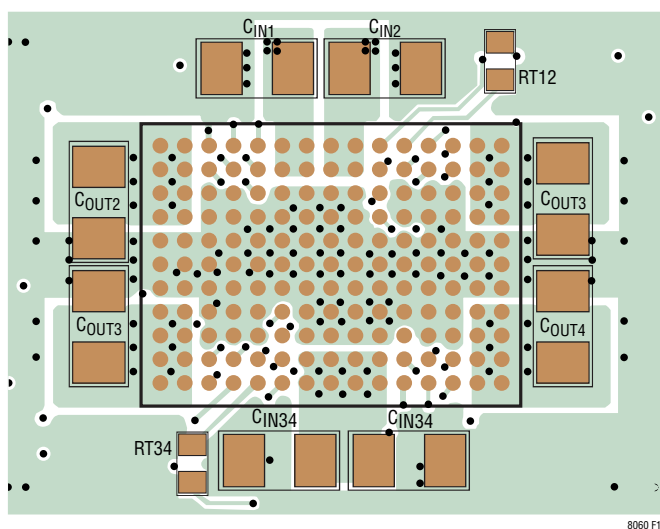

Figure 15. Layout Showing Suggested External Components, GND Plane and Thermal Vias
Most of the headaches associated with PCB layout have been alleviated or even eliminated by the high level of integration of the LTM8060. The LTM8060 is nevertheless a switching power supply, and care must be taken to minimize EMI and ensure proper operation. Even with the high level of integration, you may fail to achieve specified operation with a haphazard or poor layout. See Figure 15 for a suggested layout. Ensure that the grounding and heat sinking are acceptable.
6. Use vias to connect the GND copper area to the board's internal ground planes. Liberally distribute these GND vias to provide both a good ground connection and thermal path to the internal planes of the printed circuit board. Pay attention to the location and density of the thermal vias in Figure 15. The LTM8060 can benefit from the heat sinking afforded by vias that connect to internal GND planes at these locations, due to their proximity to internal power handling components. The optimum number of thermal vias depends upon the printed circuit board design. For example, a board might use very small via holes. It should employ more thermal vias than a board that uses larger holes.